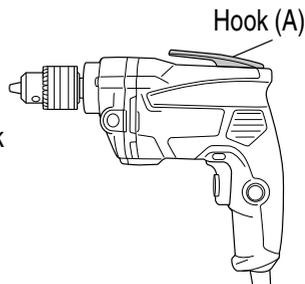

Fig. 5
For hook (A) (top-attaching) (Fig. 5)